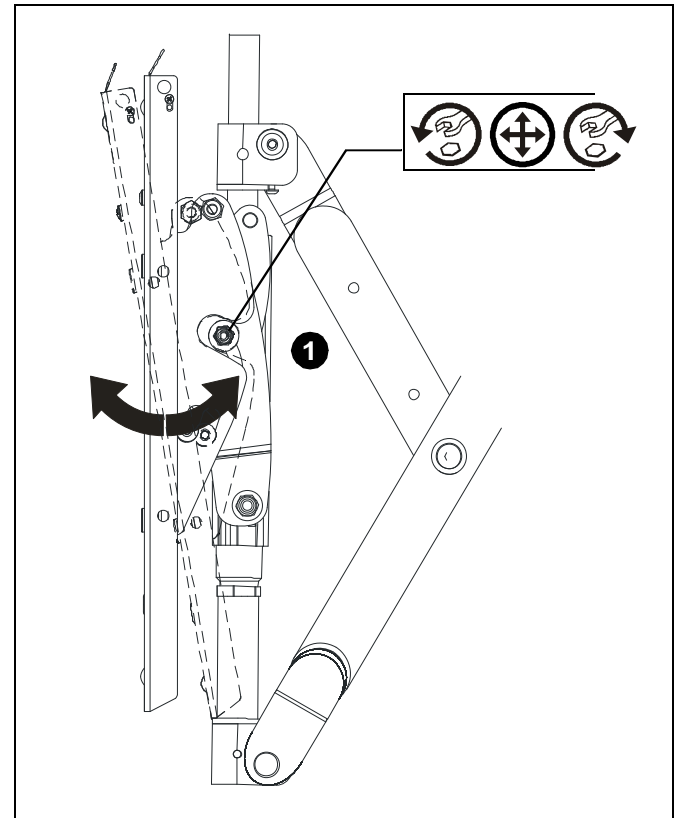

Figure 14
1. With display installed, tighten or loosen two screws, one on each side. (See Figure 14)